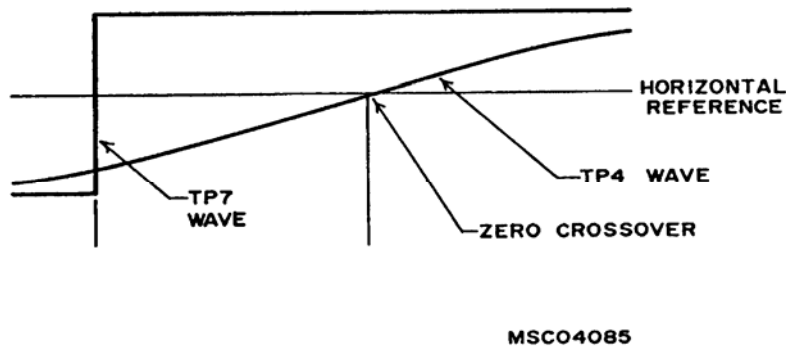

Figure 4. Zero crossover waveform.
- (7) Set range calibrator **FUNCTION** switch to **CALIBRATE**.
- (8) Position oscilloscope controls as listed in (a) through (e) below:
- (9) Adjust oscilloscope and range calibrator controls to superimpose waveforms as shown in figure 4, using procedure in (a) through (d) below.